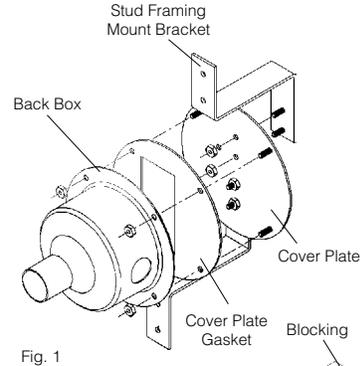

Fig. 1
1. Install the (2) stud framing mounting brackets provided as shown in Fig.1.